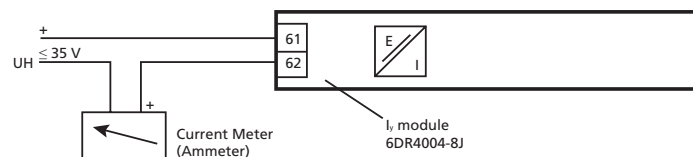

Figure 8.- Iy module 6DR4004-8J, not Ex
4. Refer to Figure 8 and Figure 9 to connect the Iy module in standard and intrinsically safe applications.